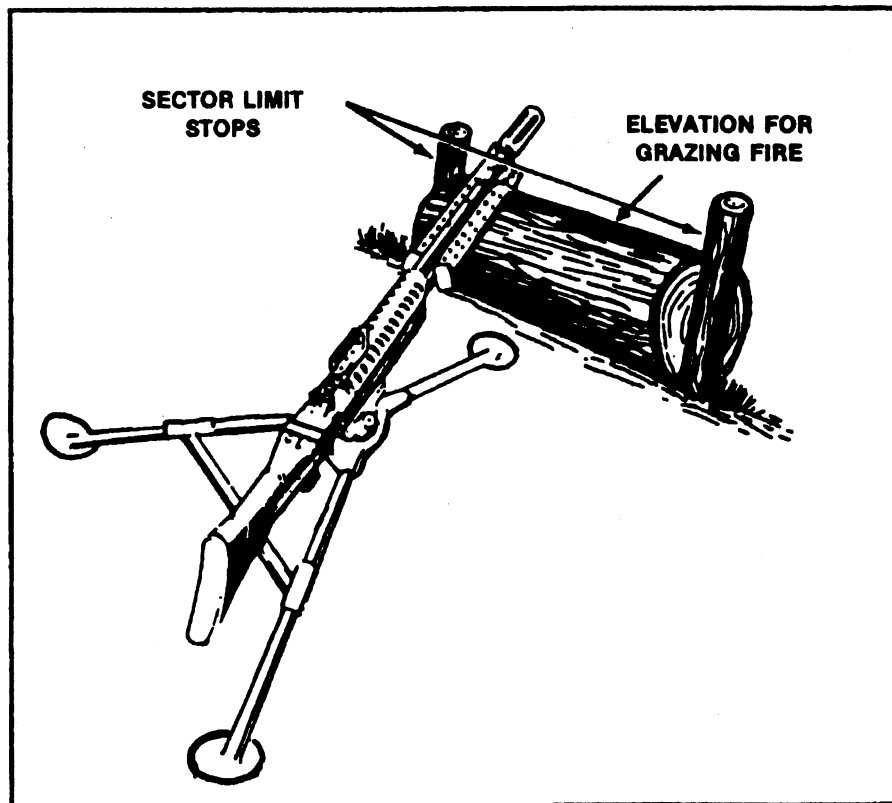

Fig 4-12. Muzzle or depression stop in place.
a. Definition and purpose. Beyond the establishment of a safety limit, the single most important safety precaution that can be used in overhead fire is a muzzle or depression stop. A muzzle or depression stop is some object or device which will not allow you to lower the muzzle of your gun beyond a certain limit. The depression stop will normally be positioned to allow the muzzle to be depressed only to within 10 mils of the safety limit. The 10 mil buffer is established by aiming in on the safety limit and then elevating the muzzle 10 mils or 10 clicks. It is at this point of elevation that the stop will be inserted under the muzzle (shown in fig 4-12).
- (1) Logs that are large in diameter (at least 10 inches)
- (2) Sandbags (at least two bags thick)
- (3) Heavy metal beams, like railroad track (at least 3/4-inch thick)